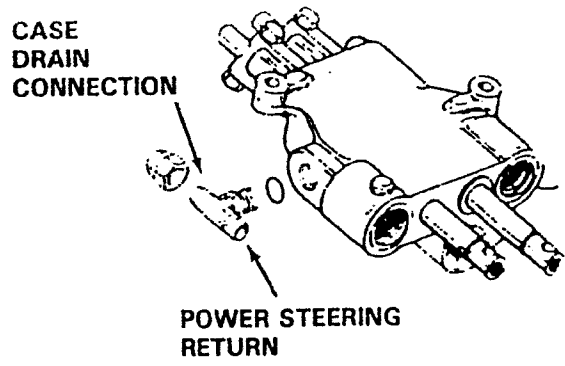

FIGURE 1 - Power Steering Model Shown
5. The travel control valve contains a case drain port located on the R.H. side of the valve as shown in Figure 1. If an elbow or tee fitting is already installed in this port, remove cap from fitting and connect case drain hose to fitting.